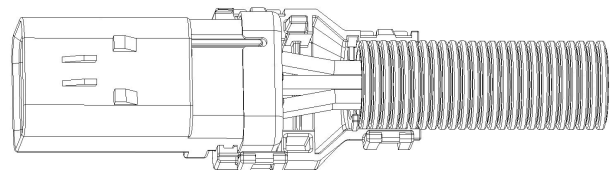

Figure 11
5. Insert the connector into the bottom half of the backshell, so that the wire seal cover is behind the second rib at the opening of the backshell. The conduit should be placed into the wire exit portion of the backshell with the end at or near the conduit flange and the conduit retention rib recessed within one of the wells of the conduit as shown in Figure 11.